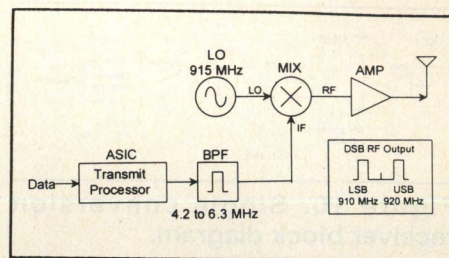

Figure 8. Transmitter block diagram.
The filtered baseband signal is typically applied to the IF port of the balanced mixer, Figure 8. The Local Oscillator (LO) port of the balanced mixer is driven with the desired carrier or center frequency. In this manner, the spread spectrum baseband signal PSK modulates the RF carrier. The resulting modulated signal, shown in Figure 9, contains energy sidebands located approximately 5 MHz below and above the carrier frequency. The LO signal feed through is attenuated by the balance of the mixer. Typically both sidebands are amplified by a linear power amplifier before transmission via the antenna.